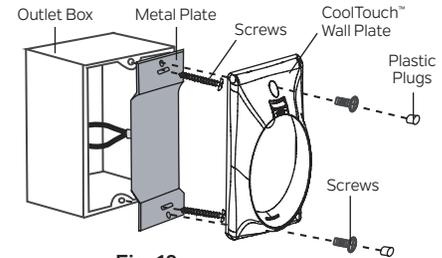

Fig. 18
Step 2. Install the metal plate and CoolTouch™ wall plate to the existing wall outlet box with 4 screws provided. Insert the two plastic plugs into the wall plate. **(Fig. 18)**